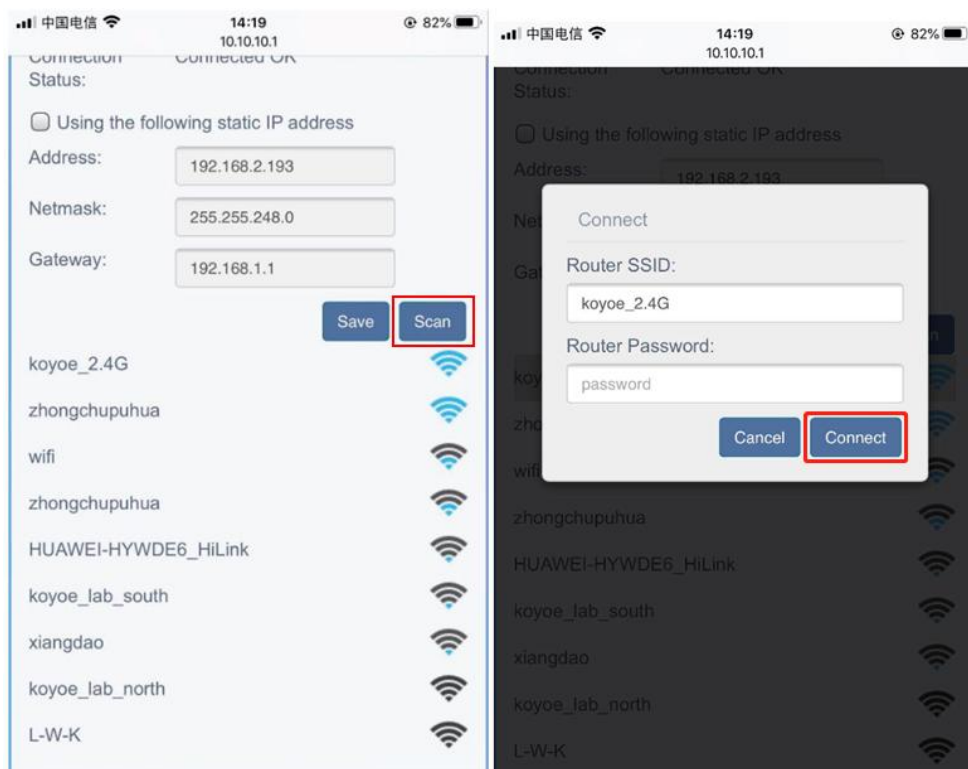

Figure 11-3
2).Click the "scan" button, and the router WiFi hotspot list will appear.Then select the WiFi hotspot, enter the password and click "connect".The method is shown in Fig11-3.